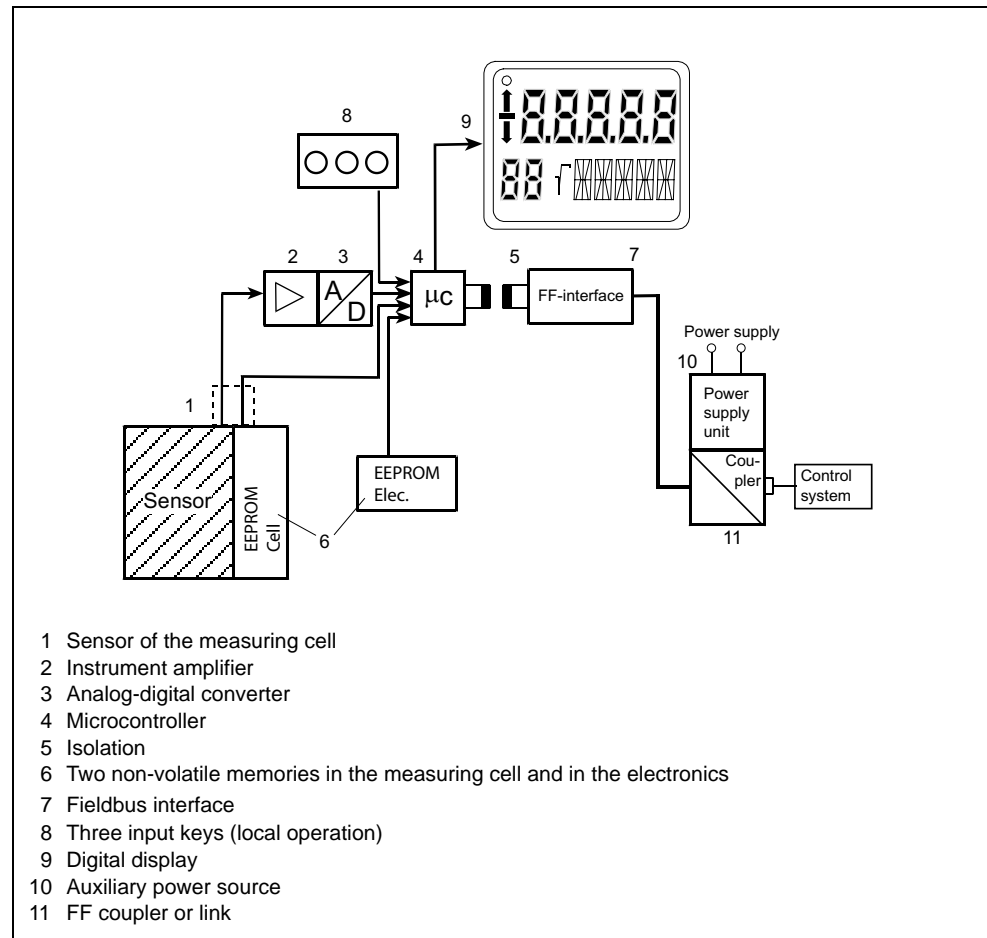

Figure 5 Transmitter SITRANS P, DS III FF series, electronics
The input variable provided by the sensor (see (1) Figure 5) is amplified by an instrument amplifier (2) and converted into a digital signal via an analog-digital converter (3). This is evaluated in a microprocessor (4), its linearity and temperature behavior corrected and made available using the isolated interface (5) on the FOUNDATION™ Fieldbus (7). The measuring cell-specific data of the electronics and the data for transmitter parameterization are stored in two non-volatile memories (6).